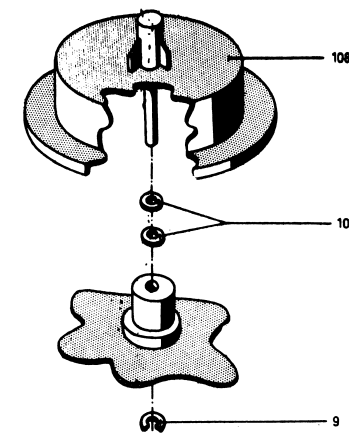
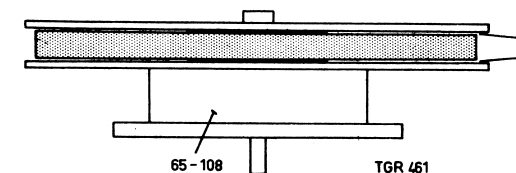

Fig. 9
Fig. 10
- Finally the height adjustment of the turntables 65 and 108 should be checked. Here attention should be paid to the tape being wound onto the centre of reel, that is it should not touch the flange of the reel, Fig. 10. The height of the right-hand turntable can be adjusted by increasing or decreasing the number of filling rings 109, Fig. 9.